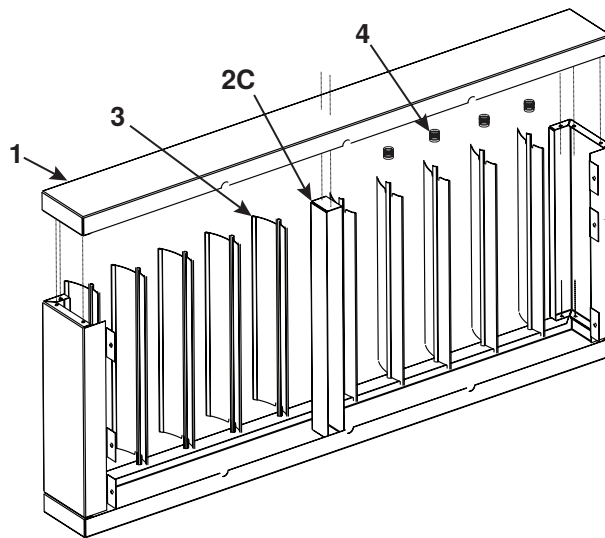

Figure 32. Vertical Louver Assembly—RA and RAD Models, Unit Sizes 150 and 250 (Refer to Table 22)
- The vertical louver assembly for RA and RAD models—unit sizes 150 and 250—is shown in Figure 32.